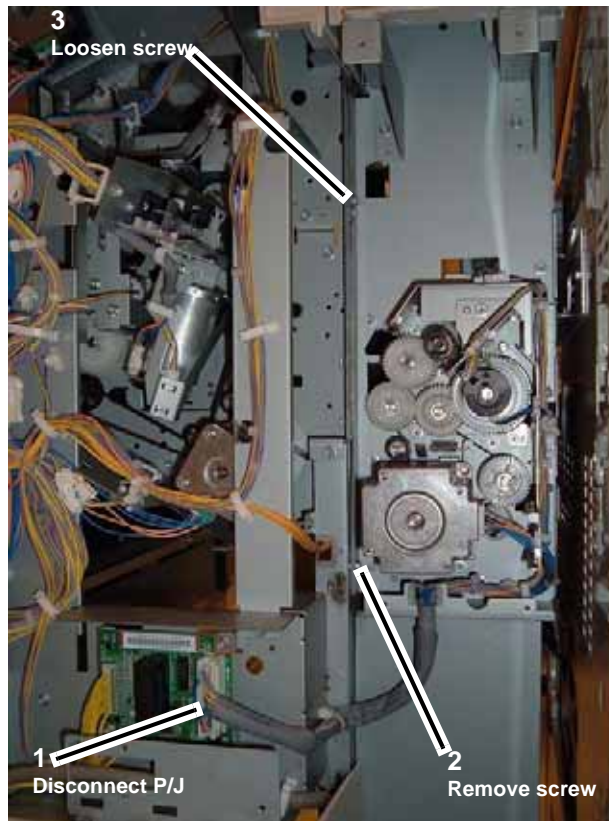

Figure 1 Preparing to remove I/F Module
4. Prepare to remove I/F Module (Figure 1).